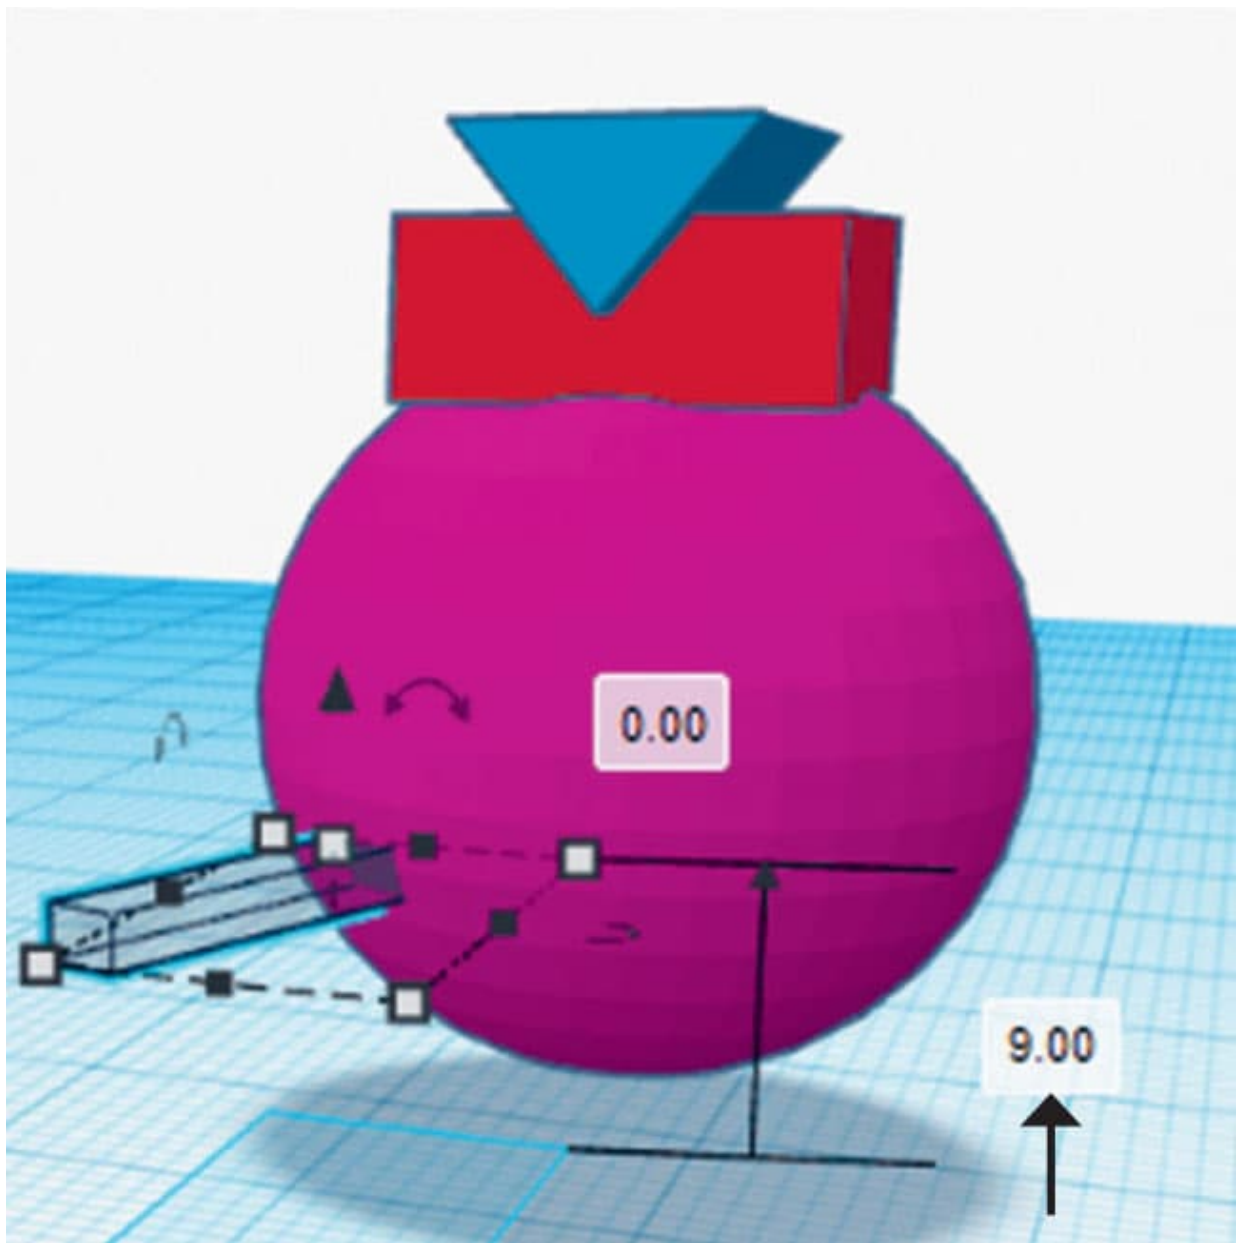
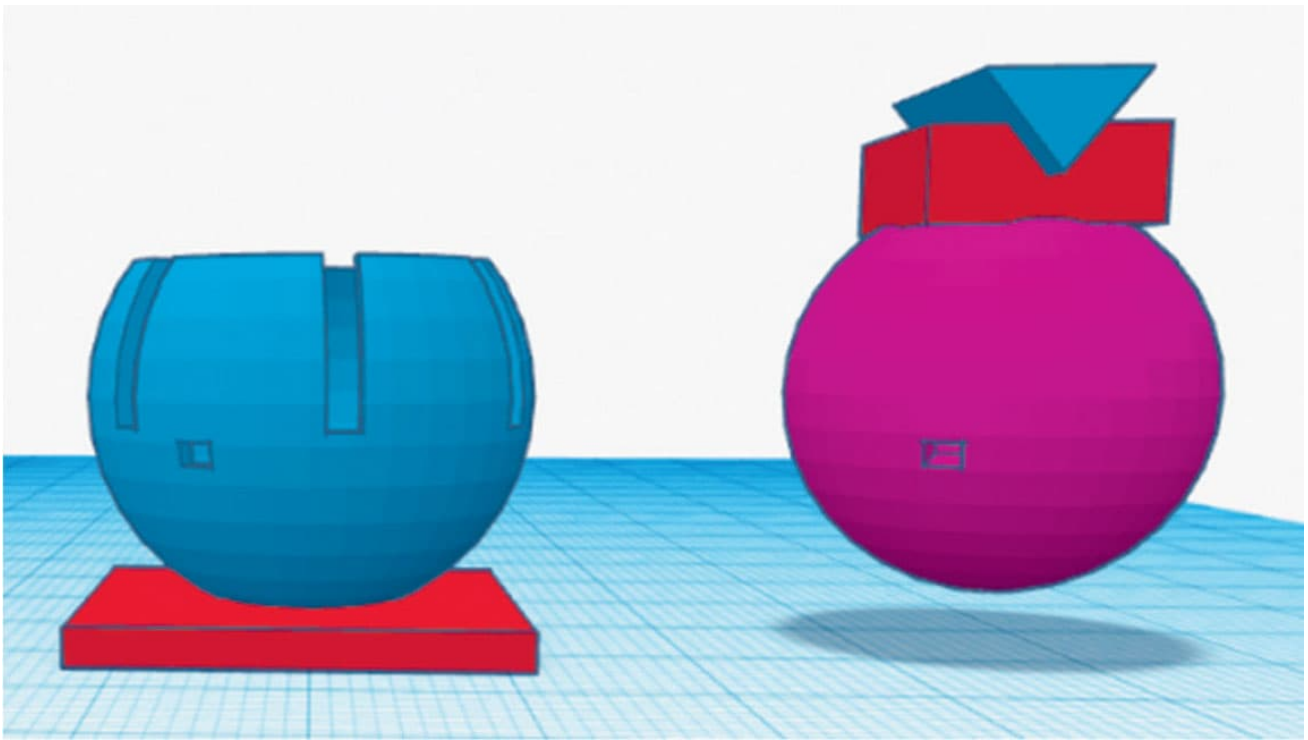

FIG. 4: Create a matching box hole for the key seat in the ball section of the joint at the same height and angle as the hole in the socket section.
FIG. 5: *The completed key seat in the ball-and-socket joint.*
4. Now we will create the key seat in the ball section so we can lock the holder in the vertical position. Make a copy of the rectangular box hole from step 2. Merge it with the ball at the same height from the workplane and same angle as you did in step 2 (fig. 4). Group the box hole with the ball section to create the key seat in the ball (fig. 5).